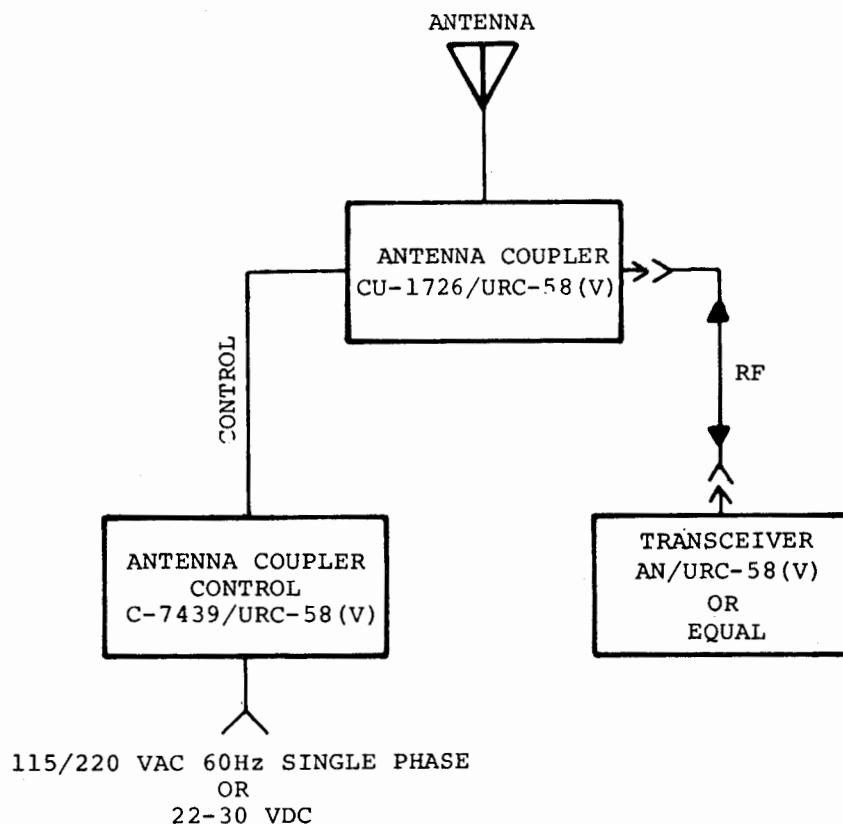

Figure 6-33 Antenna Coupler Group OA-8364/URC-58(V)
c. INTERCONNECTION DIAGRAM. - See Figure 6-33.